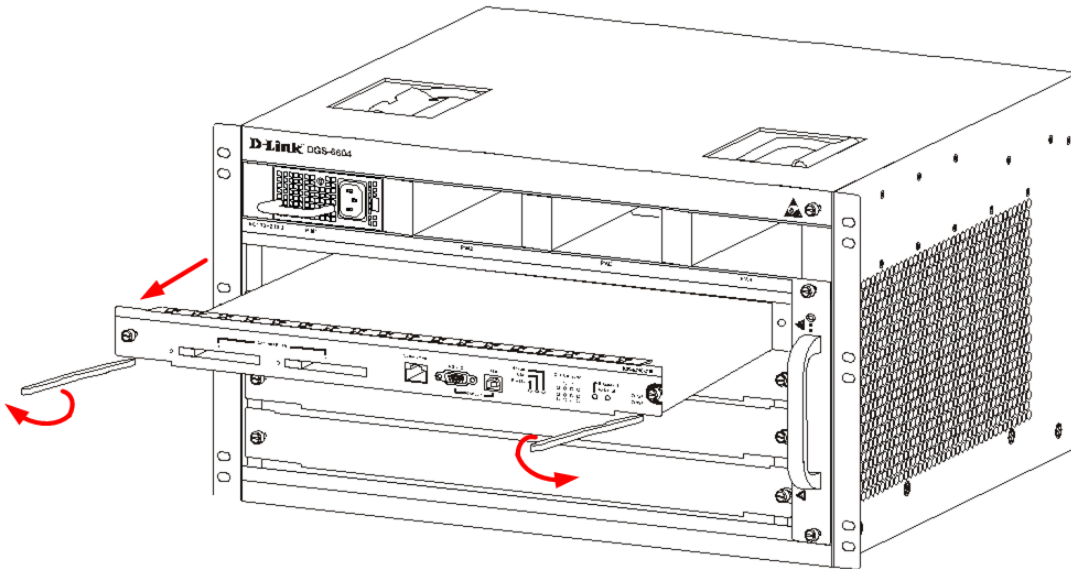

Figure 2-7 Schematic diagram for removing a line card
4. Use both hands to pull the levers on the left and right hand side of the board to remove the board from the DGS-6604, as shown in Figure 2-7